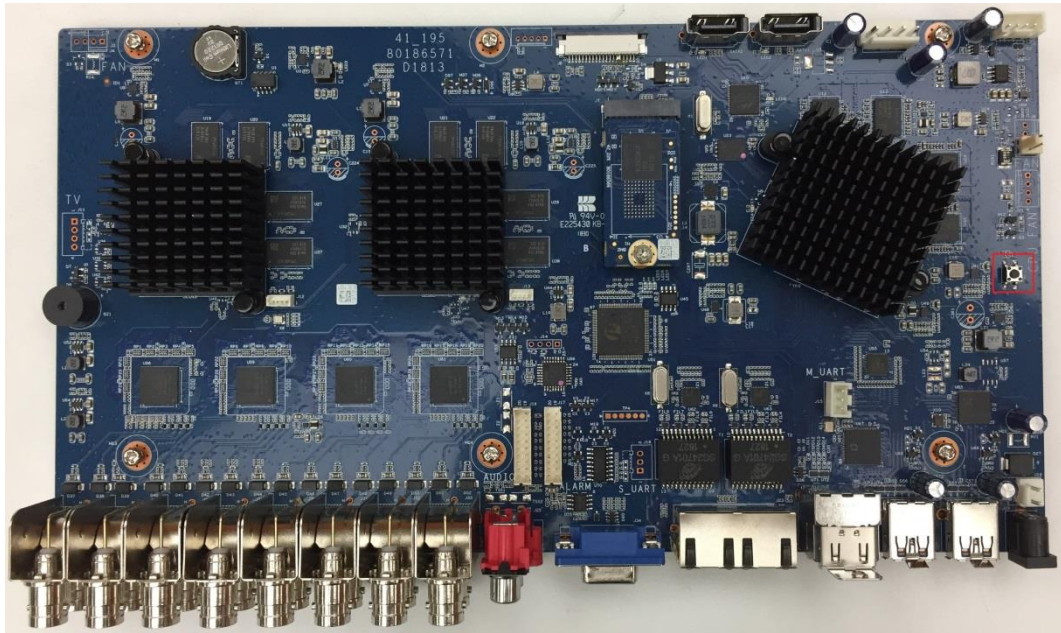

Figure 5-11
Step 3 Press and hold the reset button for 5 seconds to 10 seconds. See Figure 5-11 for the location of the reset button.